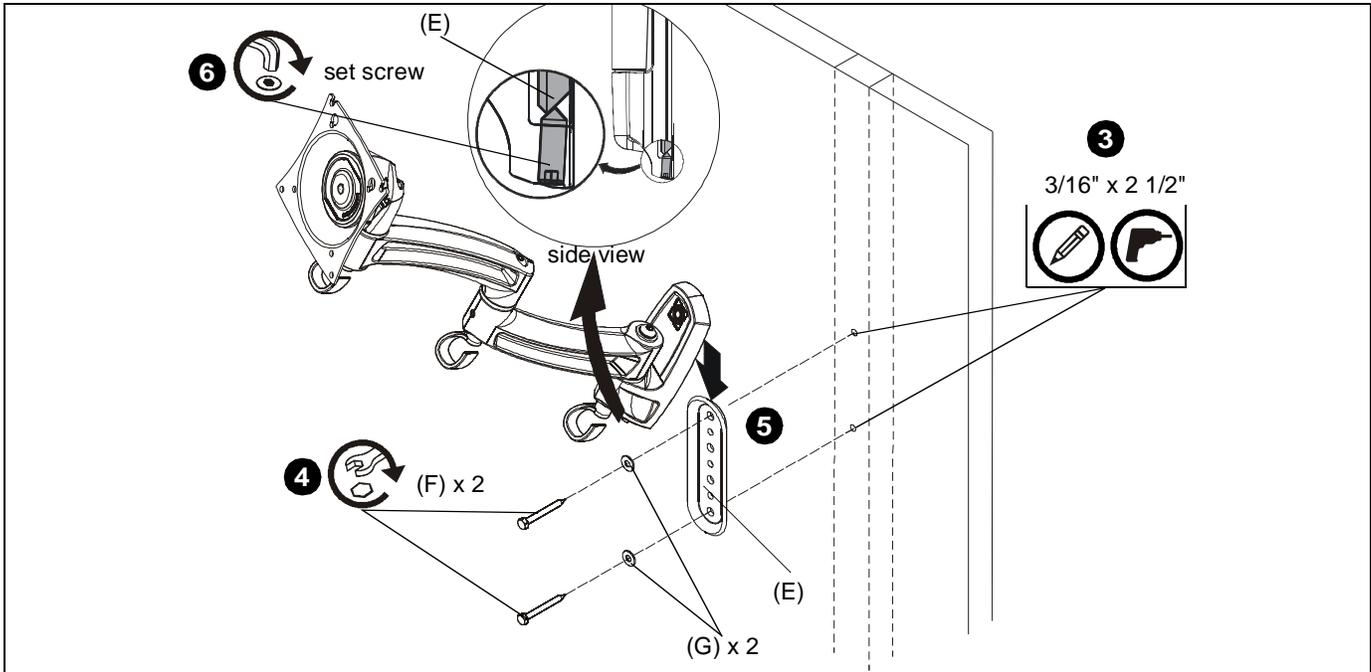

Figure 5
3. Use wall bracket to mark and drill two 3/16" x 2 1/2" holes in wall at desired mounting location. (See Figure 5)
4. Use two 1/4-2 1/2" hex head lag screws (F) and two 1/4" washers (G) to install wall bracket onto wall. (See Figure 5)
**IMPORTANT ! :** Overtightening screws (F) may cause bracket to compress into soft wall surface resulting in difficult mount installation or improper engaging of set screw in Step 6.
5. Hang monitor arm (A) over wall bracket. (See Figure 5)
6. Secure monitor arm to wall bracket by tightening set screw. Ensure set screw engages back side of wall bracket (E) to properly secure mount. (See Figure 5)